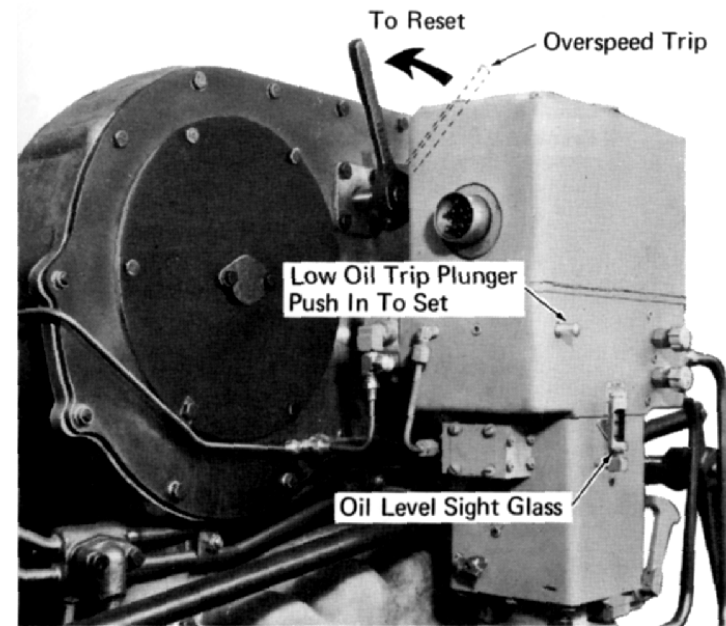

Fig. 3-1 - Engine Overspeed Trip And Low Oil Pressure Trip Plunger
- Check to see that engine overspeed lever is set, Fig. 3-1.
- Observe that governor low oil pressure trip plunger, Fig. 3-1, is set and that there is oil visible in the governor sight glass.